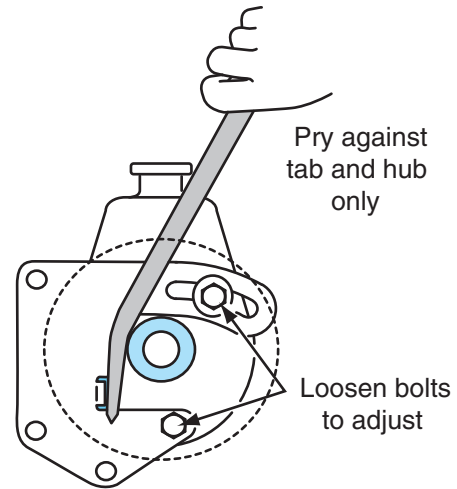

FIGURE 17.83 When tightening the power steering belt, pry only in the designated area to avoid damage.
- Install all pulleys, accessories, and belts. If the engine has V-belts, use a belt tension gauge to adjust belt tension. Manufacturers usually provide a suitable place to pry on the pump housing (Figure 17.83). When adjusting power steering belt tension, be careful not to pry against the sheet metal portion of the pump; the pump may be damaged.